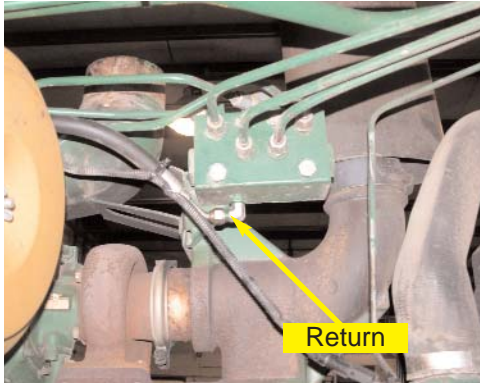
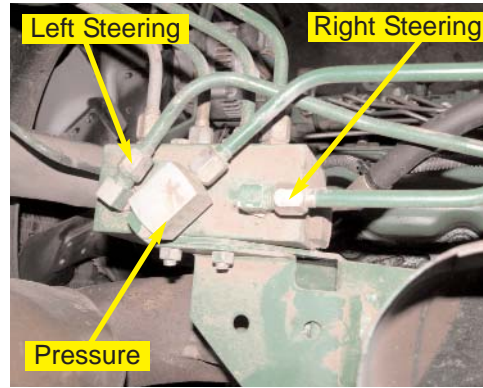

Figure 3b. Tractor Steering Valve - return connection.
Figure 3a. Tractor Steering Valve - left, right, and pressure connection.
- a. Locate pressure, return, left, and right input connections at the Tractor Steering Valve above the engine. (Figure 3a.)
**NOTE:** On top of the Tractor Steering Valve are the pressure, right, and left input connections. (Figure 3a.) Below the valve is the return connection (Figure 3b.)